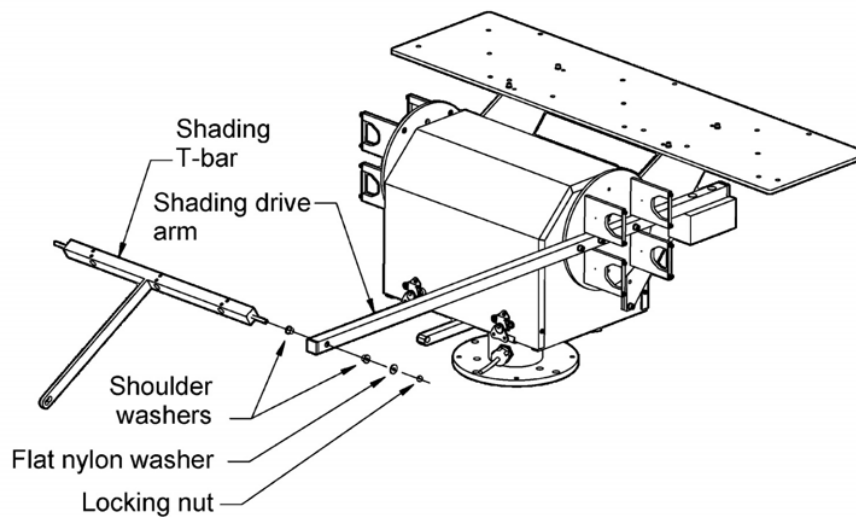

Figure 4.23: Pivot Joint "A" Assembly
- Install the T-Bar (without ball rods) as shown in figure 4.23. Install the plastic shoulder washers onto the threaded studs of the T-Bar. Insert the shoulder washers into the side arm end holes. Install the outer flat washers and the locking nuts ensuring that all the bushings are properly seated into the side arms. Only loosely install the locking nuts at this stage.